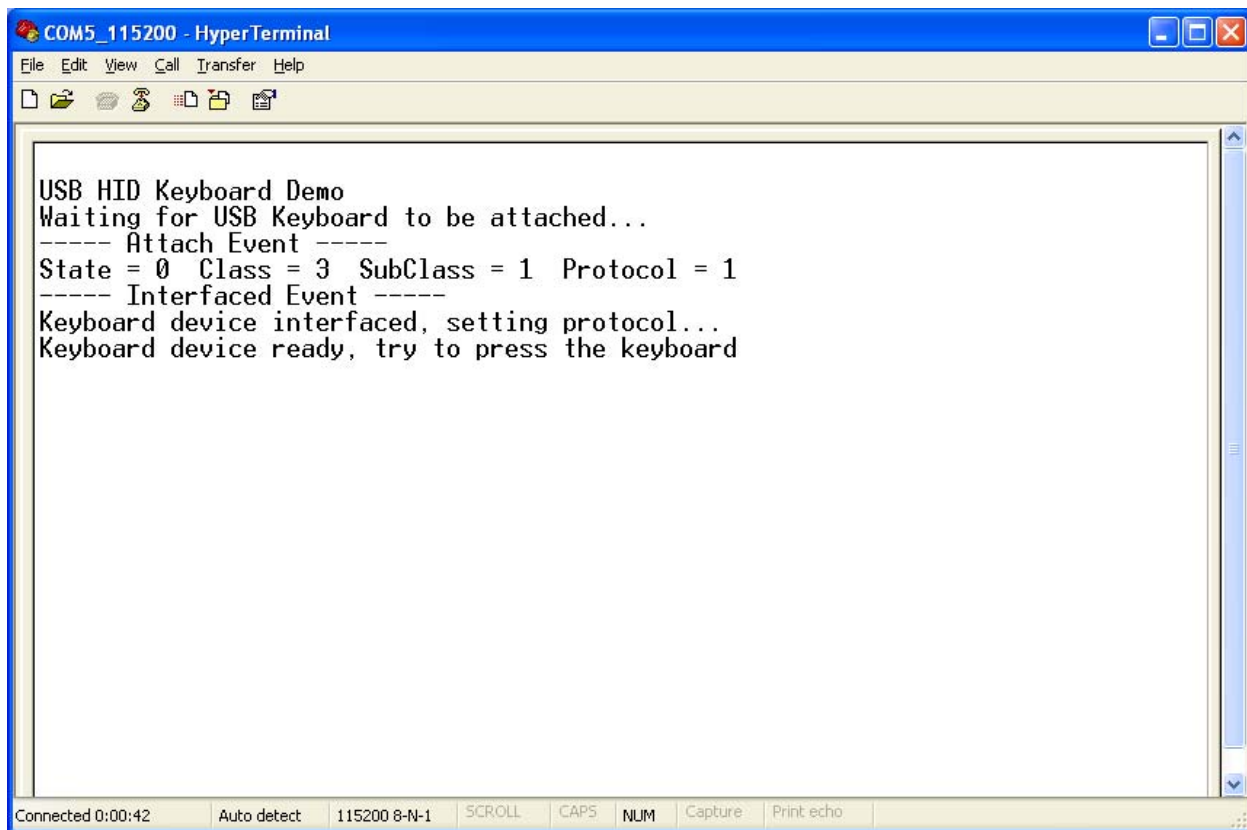

Figure B-7. Keyboard attached
3. Plug-in Keyboard, the Hyperterminal shows a message as in Figure B-7: